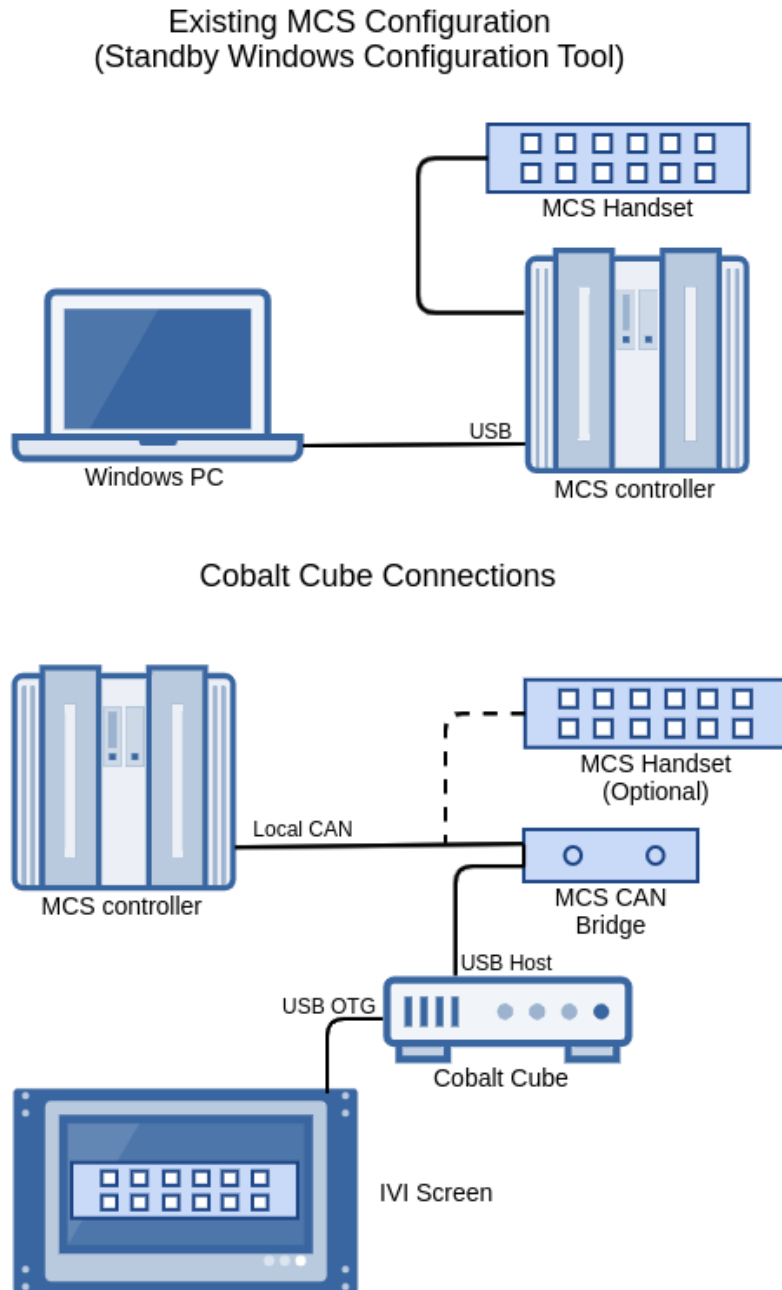

Figure 32: MCS Control connectivity diagram
The Cobalt Cube works in harmony with the existing MCS configuration tool from Standby® (see Figure 32). Each MCS is configured as before to have the desired handsets, inputs and outputs, via the Windows configuration tool provided by Standby®. The Cobalt Cube MCS Control application works by reflecting the existing handset configuration of each MCS. On application start, the software reads the handset configuration, via the USB-serial interface, and reflects the instantaneous state of each handset button and shows this on the equivalent User Interface (UI). This button state includes the button colour set for its on and off states and also if it is currently illuminated.
Figure 32 shows the connections between the Cobalt Cube, MCS components, and IVI system screen.